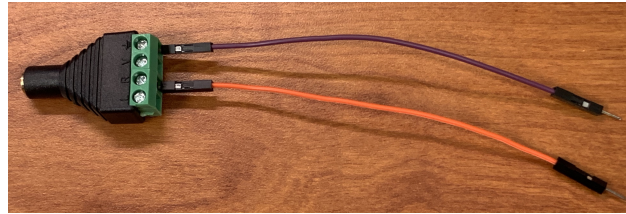

Figure 13: Connect jumper wires to  $R$  and  $\perp$  terminals.
- 5.2. Take the audio input jack (otherwise called 3.5mm terminal block) and use a small screwdriver or a sharp knife to open up two of the screws labeled as  $R$  and  $\perp$ . Insert two jumper wires inside the opened slot under the screws, and tightly close the screws again. See Figure 13.